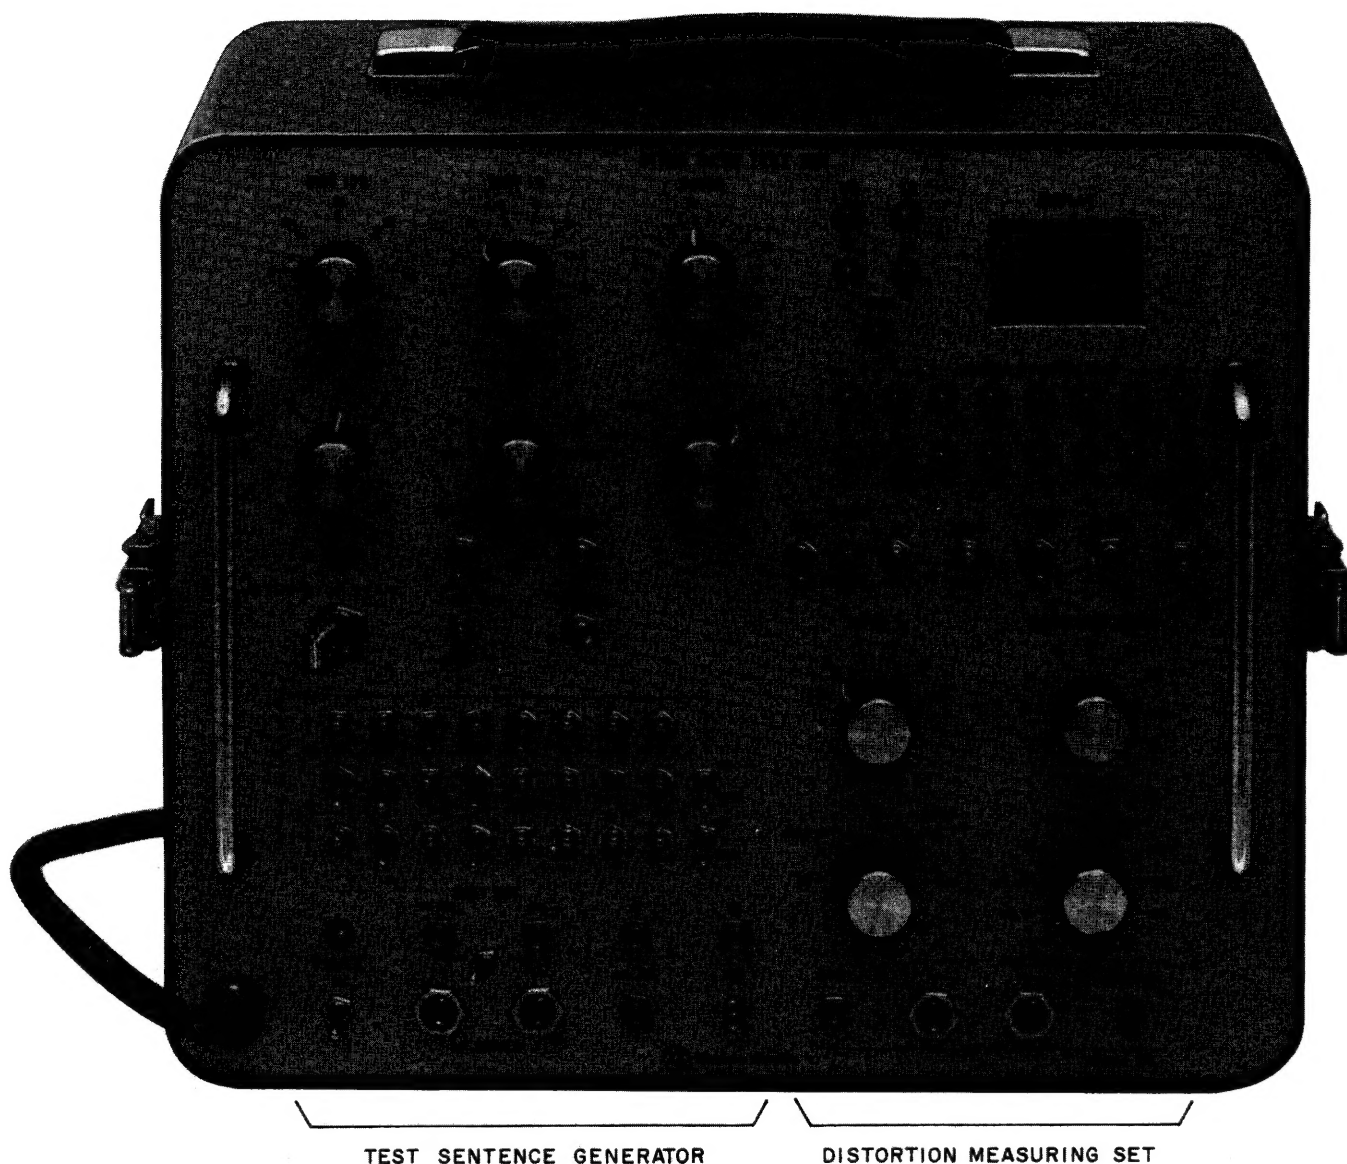

Fig. 7—911NA DTS Front Panel
2.06 The front panel of the DTS is shown in Fig. 7. The left-hand side comprises the TSG, while the right-hand side is used as a DMS. For self-testing, the TSG is internally connected to the DMS when the INPUT switch is set to TST.